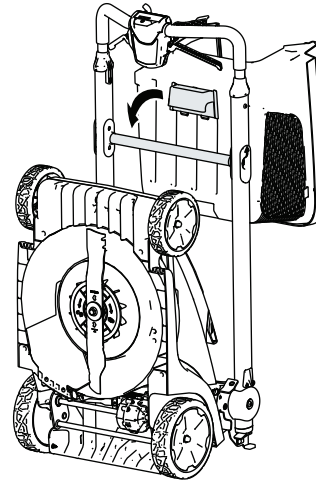

Figure 23
**Note:** You can hook the grass box onto the handlebar release brace in this position (Figure 23).